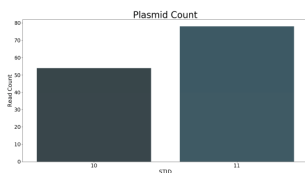

Figure 3. Quality control of the sample tracking system (optional)
- **STIDs:** Verification that the tracking reagent obtained matches the expected one (if it has been used), as shown in Figure 3.